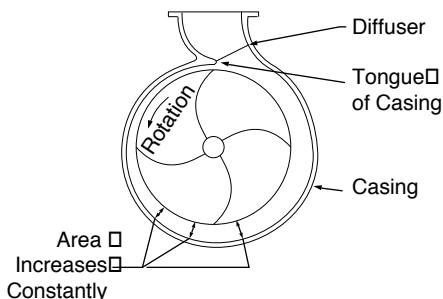

FIGURE 26. Typical Centrifugal Pump Casing
- the function of the casing is to gather and direct the liquid to the discharge nozzle of the pump. The casing is designed so that, at one point, the wall of the casing is very close to the impeller periphery. This point is called the tongue or shear water of the casing. Figure 26 illustrates a typical casing design.